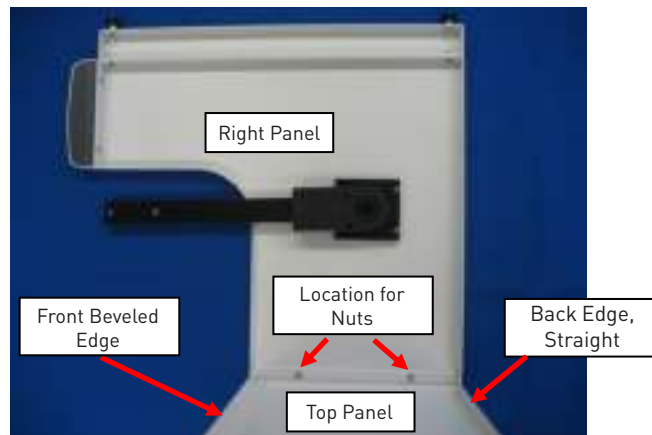

Figure 12
- Place the Top panel on a clean, flat surface, preferably over a bubble wrap or foam. Note the orientation of the front of the Top Panel in reference to the Right and Left Panels as shown in Figure 12.